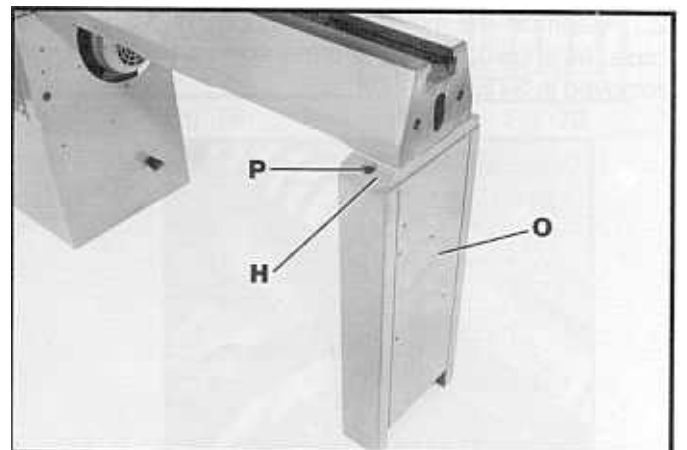

Fig. 12
3. Position tailstock base (O) Fig. 12, underneath foot casting (H) and fasten tailstock base (O) to foot casting (H) using the two 30mm long hex head screws and flat washers, one of which is shown at (P).